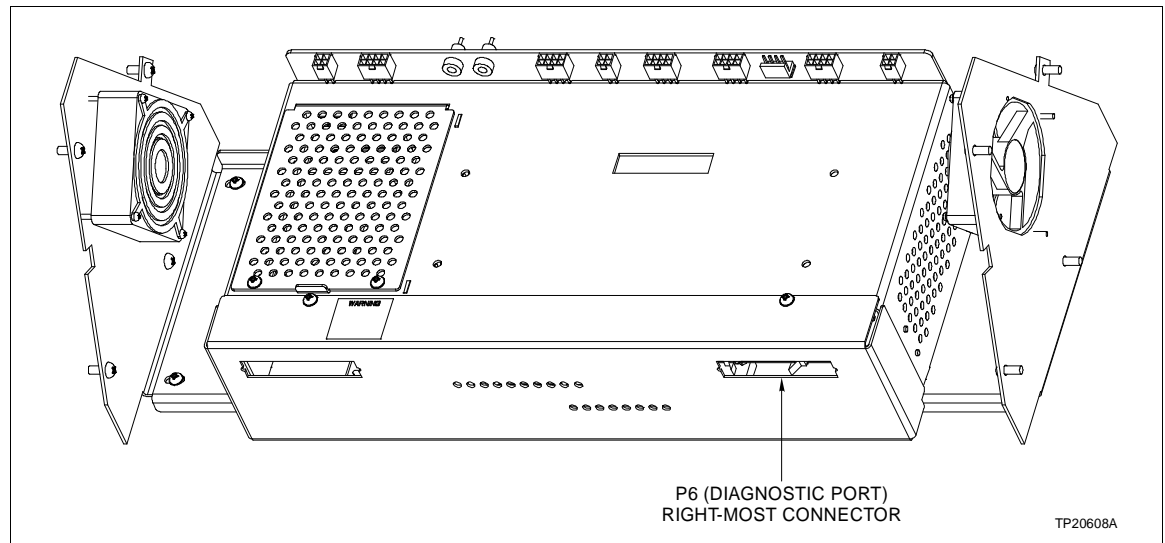

Figure PR52-1. Diagnostics Port P6
- 1. Connect the nine-pin to 25-pin D connector serial cable between the dumb terminal and port P6 on the MCP module (Fig. PR52-1).